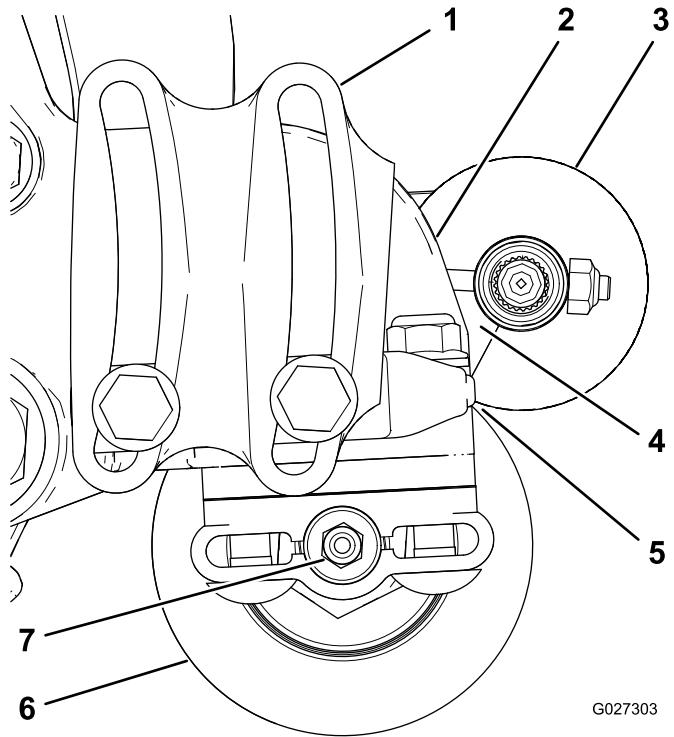

Figure 12
2. Position the roller brush so that it is just touching or resting on the rear roller (Figure 12).